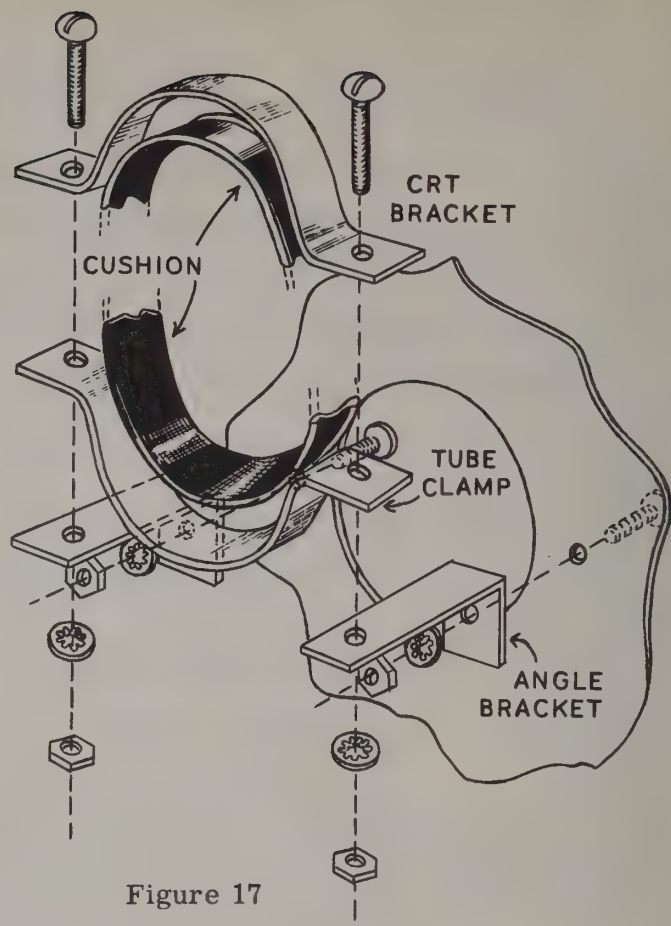

Figure 17
- (✓) Refer to Figure 17 and clamp the CR tube to the angle brackets mounted on the CRT support bracket. Don't forget the rubber cushion strip. The 6-32 x 1" screws are passed through the top tube clamp, the bottom tube clamp and then the angle bracket. Secure with #6 lockwashers and 6-32 nuts but do not tighten yet.